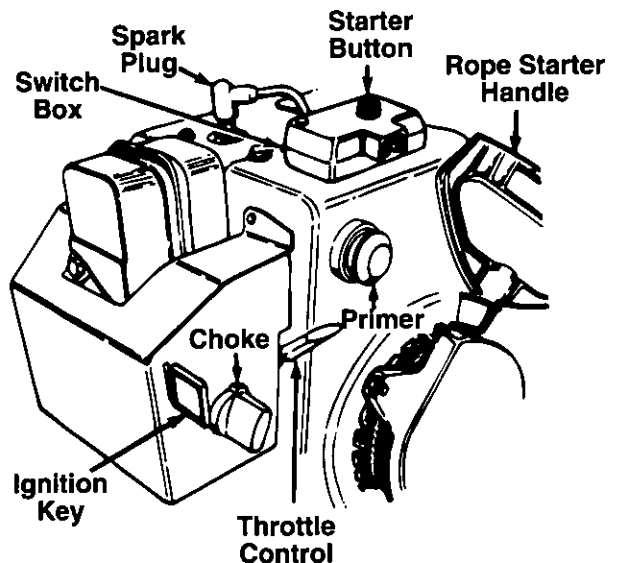

FIGURE 13.—Model 646F Shown
THROTTLE CONTROL (See figure 13)
SAFETY IGNITION SWITCH (See figure 13)
3. Move throttle control up to FAST position. Insert ignition key into slot. See figure 13. Be certain it snaps into place. **Do not** turn key.
6. Push primer button two or three times. See figure 13.
7. **Recoil Start:** Grasp starter handle (see figure 13) and pull rope out slowly, until it pulls slightly harder. Let rope rewind slowly. Pull starter handle rapidly. Do not allow handle to snap back. Allow it to rewind slowly while keeping a firm hold on the starter handle.